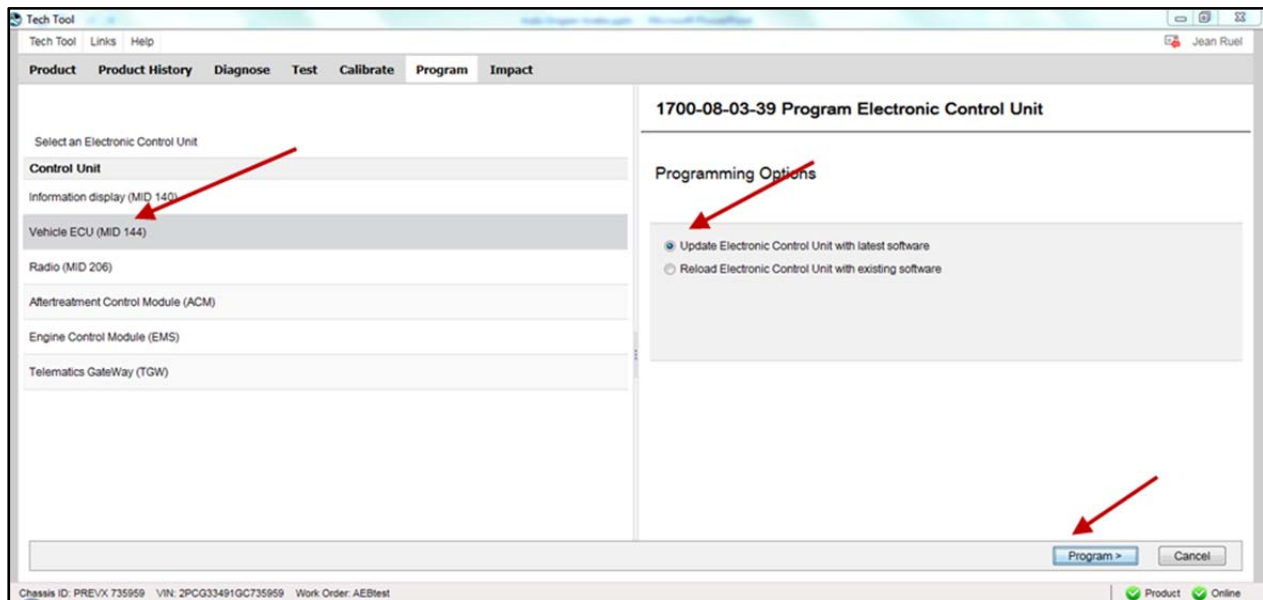

FIGURE 5
2. Select the proper electronic control unit which is VEHICLE ACU MID144 (FIGURE 5).
3. Select UPDATE ELECTRONIC CONTROL UNIT WITH LATEST SOFTWARE (FIGURE 5).
4. Click on PROGRAM button and then follow the instructions (FIGURE 5).